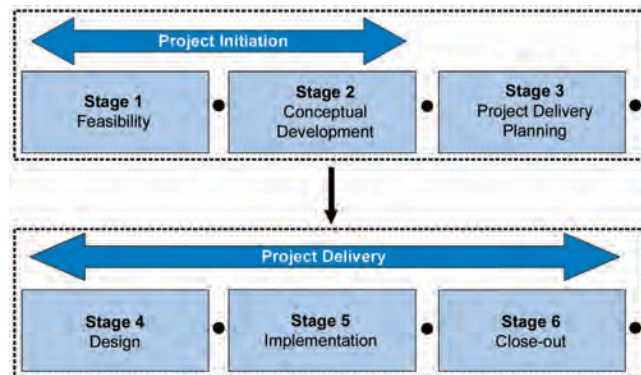

Figure 1. Project life cycle.
- Project life cycle as seen in Figure 1
Throughout the life cycle (Figure 1), the sponsor must stay in regular contact with the project and hold frequent steering or governance meetings with the project team leadership and end user.